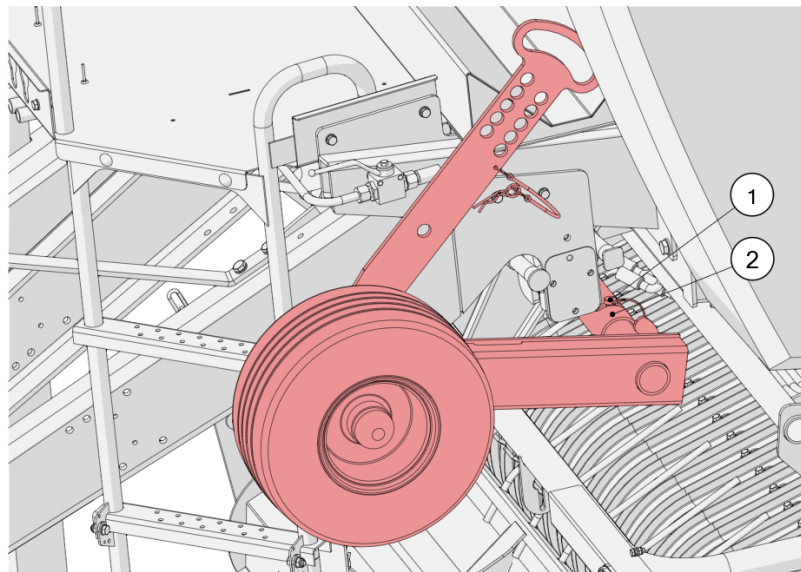

Figure 15. The wheels of the pick-up in the transportation position
When driving the Baler on public roads, the wheels of the pick-up must be in the transportation position, as shown in Figure 15. If the wheels are by the pick-up, place them in the tube (2), and lock the position with the pin (1). Do the same for both the left and right wheels.
- Make sure that the wheels of the pick-up are in the transportation position (Fig. 15);